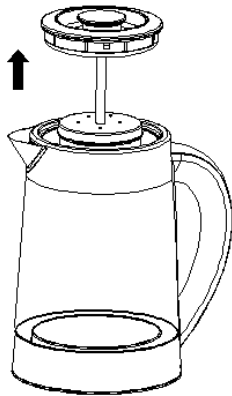
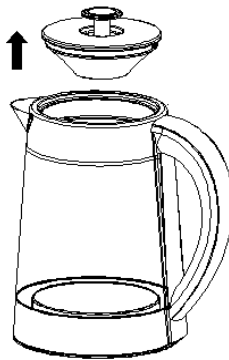

Fig. 6
Fig. 7
1. For boiling the water, press the lid opening button shown in Fig.6; the lid will open if this button bounces and then you can remove it. If cooking the tea, you can directly remove the lid (shown in Fig. 7) to place the tea into the tea bag and then add the appropriate water to the level between MIN and MAX shown by the kettle water gauge.